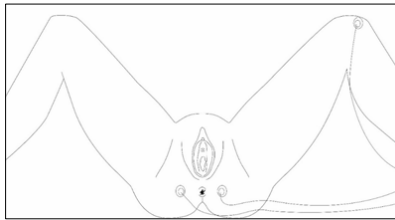

Figure 14: EMG Patch Electrode Placements
2. Place two electrodes peri-anally at the 10 o'clock and 2 o'clock position (or at the 9 o'clock and 3 o'clock position), as close to the anal verge as possible (Figure 14). Place the third electrode on a bony prominence (such as the knee) or on a fatty portion of the inner thigh.